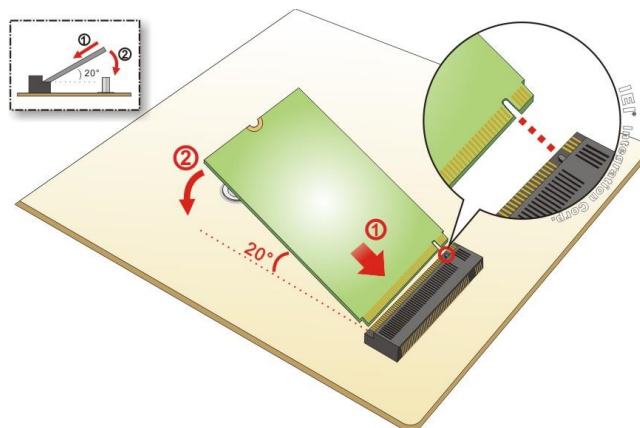

Figure 4-8: Inserting the M.2 Module into the Slot at an Angle
- Step 3:** Line up the notch on the module with the notch on the slot. Slide the M.2 module into the socket at an angle of about 20° (**Figure 4-8**).